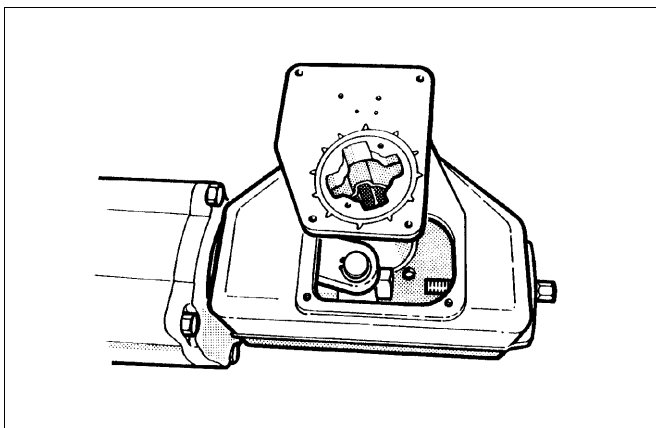
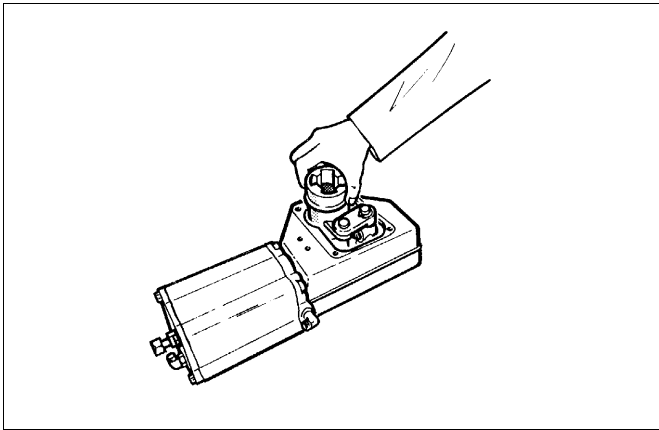

Fig. 12 Mounting the cover on the housing
Fig. 13 Removing the linkage from the housing
- ❑ Apply locking sealant e.g. Loctite 225 to the threads of the fastening screw (29) of the bearing unit and tighten it. See Table 1 for torque.
- ❑ Fasten the housing cover temporarily so that the linkage bearings (3) function, but the linkage is still visible, Fig. 12. Note the grounding rings (3A, 4A).
- ❑ Spread the sealant (e.g. Loctite 573, with sizes B1C 40 up use silicone sealant) on the surfaces between the housing and the cover. Fasten the cover, Fig. 12. See Table 1 for torques.
- ❑ Turn the lever (3) so that the bearing unit is detached from the piston rod (10). Lift the entire lever system out of the housing, Figure 13.
- ❑ Remove the lever bearings (23), the O-rings (17) and the grounding ring (3A).
- ❑ Install the grounding ring (3A), the lever bearings (23) and the O-rings (17). The grounding rings (3A and 4A) are needed to meet the ATEX requirements.
- ❑ Assemble the linkage and install in the housing. See Figure 13 for the correct position. Note the ring (4A).